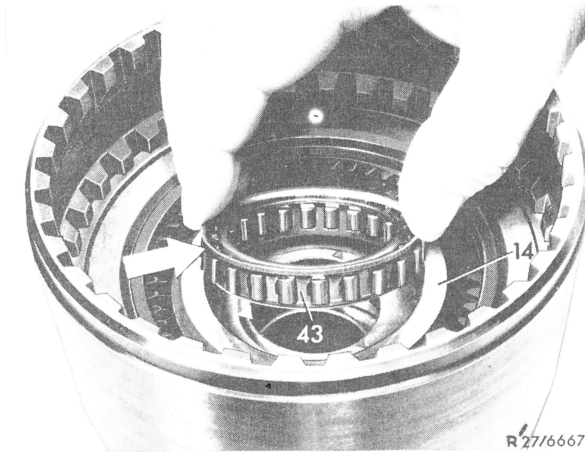

Fig. 15
25 Insert roller clutch (43) into outer race (14). The edge with outward bead (refer to arrow) should face upwards (Fig. 15).